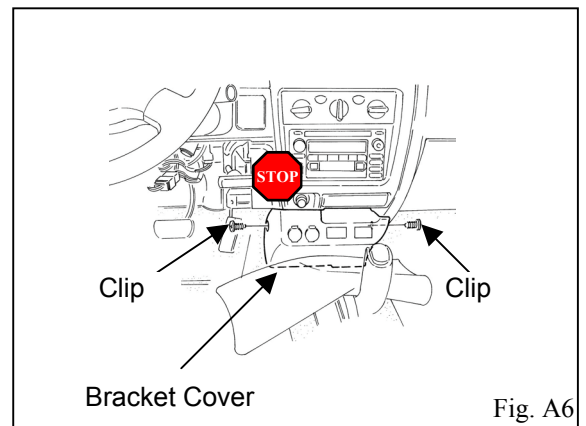

Fig. A6
-  7. Loosen the bracket cover, but do not remove the cover. (Fig. A6)